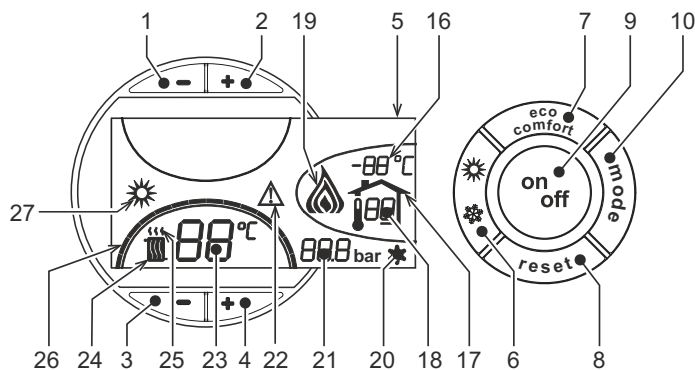
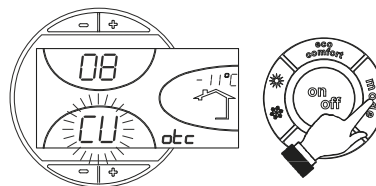
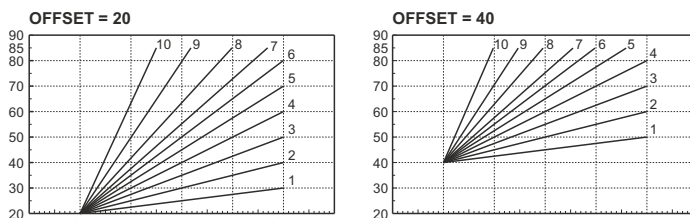

fig. 1 - Control panel
fig. 9 - Compensation curve
fig. 12 - Example of compensation parallel curve offset
Press the **on/off** button (detail 9 - fig. 1) for 1 second.
To relight the boiler, press the **on/off** button (detail 9 - fig. 1) again for 1 second.
- Press the ON/OFF button (9 - fig. 1)
Press the **summer/winter** button (detail 6 - fig. 1) for 1 second.
The display activates the Summer symbol (detail 27 - fig. 1): the boiler will only deliver domestic hot water. The antifreeze system remains activated.
To deactivate the Summer mode, press the **summer/winter** button (part. 6 - fig. 1) again for 1 second.
Use the **heating** buttons (details 3 and 4 - fig. 1) to adjust the temperature from a min. of 30°C to a max. of 80°C.
Use the DHW buttons -/+ (details 1 and 2 - fig. 1) to adjust the temperature from a min. of 10°C to a max. of 65°C.
When the optional external probe is installed the control panel display (detail 5 - fig. 1) shows the actual outside temperature read by the probe. The boiler control system operates with "Sliding Temperature". In this mode, the temperature of the heating system is adjusted according the outside weather conditions, in order to ensure high comfort and energy saving throughout the year. In particular, as the outside temperature increases, the system delivery temperature is decreased according to a specific "compensation curve".
With Sliding Temperature adjustment, the temperature set with the heating buttons -/+ (details 3 and 4 - fig. 1) becomes the maximum system delivery temperature. It is advisable to set a maximum value to allow system adjustment throughout its useful operating range.
Press the **mode** button (detail 10 - fig. 1) once to display the actual compensation curve (fig. 9), which can be modified with the **DHW** buttons (details 1 and 2 - fig. 1).
Press the **heating** buttons (details 3 and 4 - fig. 1) to access parallel curve offset (fig. 12), modifiable with the **DHW** buttons (details 1 and 2 - fig. 1).
Press the **mode** button (detail 10 - fig. 1) again to exit parallel curve adjustment mode.
If the Remote Timer Control (optional) is connected to the boiler, the above adjustments are managed according to that given in table 1. Also, the control panel display (detail 5 - fig. 1) shows the actual room temperature detected by the Remote Timer Control.
Eco/Comfort selection	On disabling DHW from the Remote Timer Control menu, the boiler selects the Economy mode. In this condition, the button 7 - fig. 1 on the boiler panel is disabled. On enabling DHW from the Remote Timer Control menu, the boiler selects the Comfort mode. In this condition it is possible select one of the two modes with the button 7 - fig. 1 on the boiler panel.